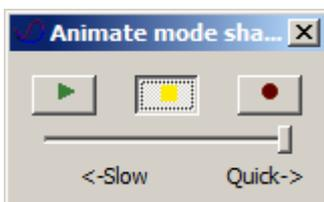

Figure 11.28 **Animate mode shape** dialog box
- ⇒ In the **Animate mode shape** dialog box (see Fig.11.28), click **Play** button .